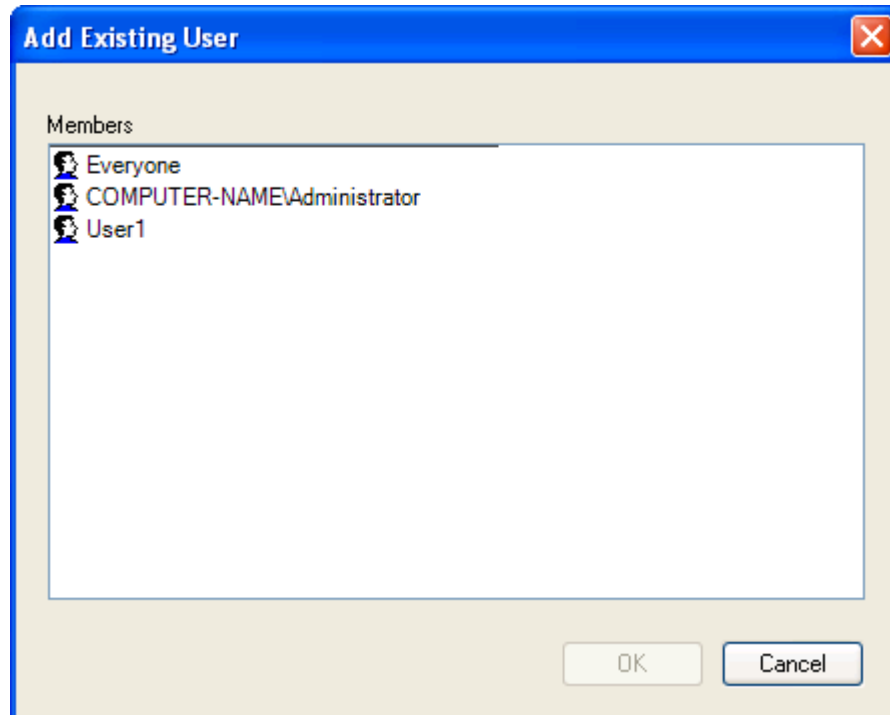

Figure 81 - Add Existing User Window
1. Click on the **Add** button. The **Add Existing User** window (Figure 81) appears.